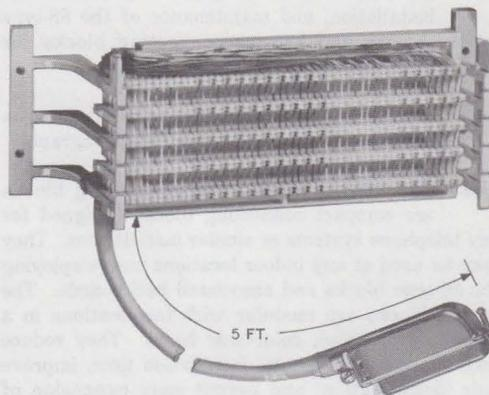

Fig. 2—88B-Type Wiring Block With Connector Cable
- (4) The third suffix numeral assignment is to identify minor design differences resulting from engineering or manufacturing improvement.
- (5) The number following dash indicates number of pairs.
(6) The letter C following the number of pairs indicates the block is supplied with a factory-wired connector-ended cable 5 feet long (Fig. 2). The blocks are factory-wired to give five multiples for each conductor. On prewired blocks, extra multiples can be provided using the 3-way bridging adapter, KS-19252, L2 (PCP), for no more than ten multiples. Refer to Section 461-200-101 for information on adapters.